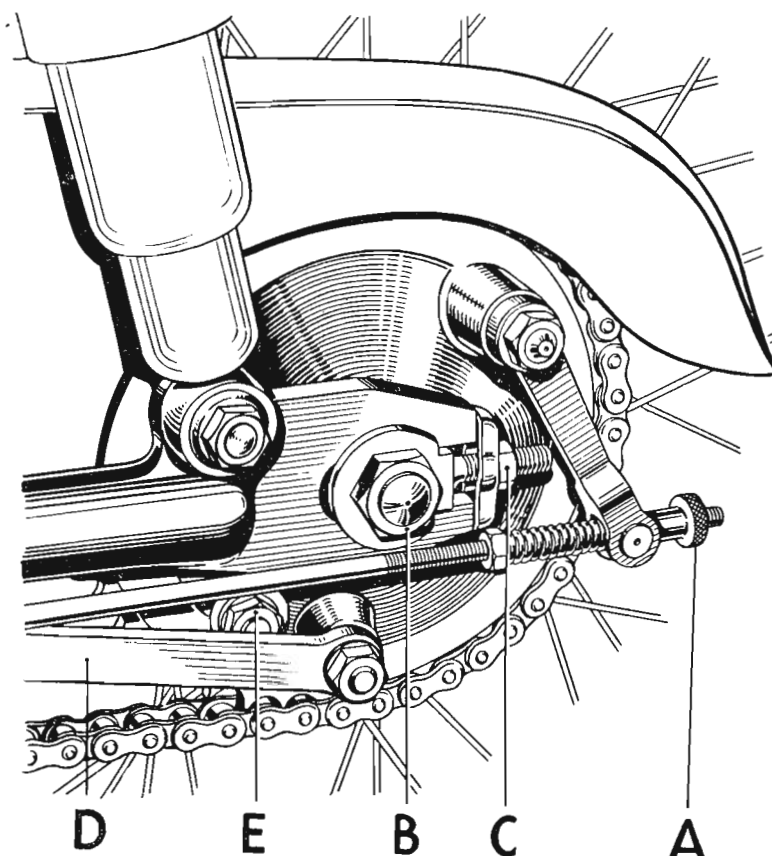

FIG. F.8.
Unscrew and withdraw the wheel spindle (D) Fig. F.8, using a suitable steel bar through the head. It has a normal right-hand thread and is therefore unscrewed in an anti-clockwise direction.